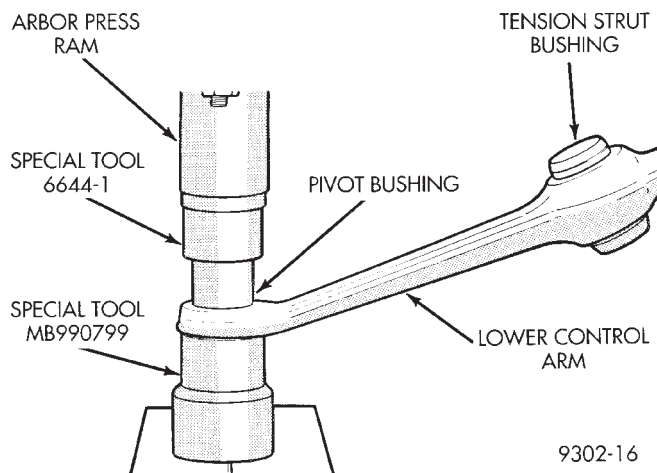

Fig. 2 Installing Lower Control Arm Pivot Bushing
(1) Turn the lower control arm over in the arbor press. So it is positioned on Receiver, Special Tool, MB-990799 as shown in (Fig. 2).
(2) Position new pivot bushing in lower control arm so it is square with the bushing hole. Position Installer, Special Tool 6644-1 on top of pivot bushing, with pivot bushing setting in recessed area of Installer (Fig. 2). Bring down ram of arbor press until it is close to Installer, Special Tool. Then square face of Installer, Special Tool 6644-1 with end of ram on arbor press and start to press bushing into lower control arm.